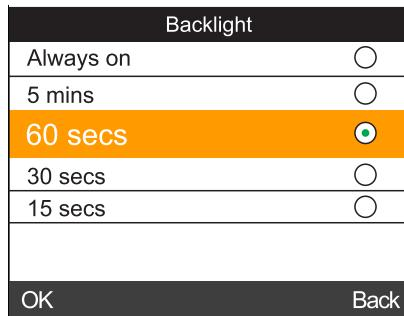

Figure 51 Backlight Time Setting Interface
g) Screen backlight time Select "Screen Backlight Time" in the "Function Settings" to enter the interface shown in Figure 51. This interface is used to set the time when the screen backlight is on when the instrument is idle, which is beneficial for saving the instrument's power consumption.